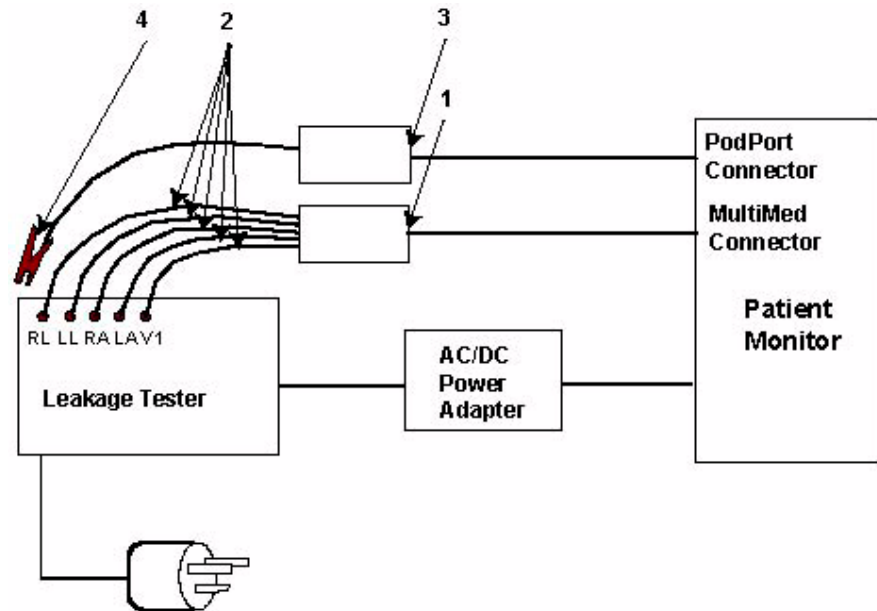
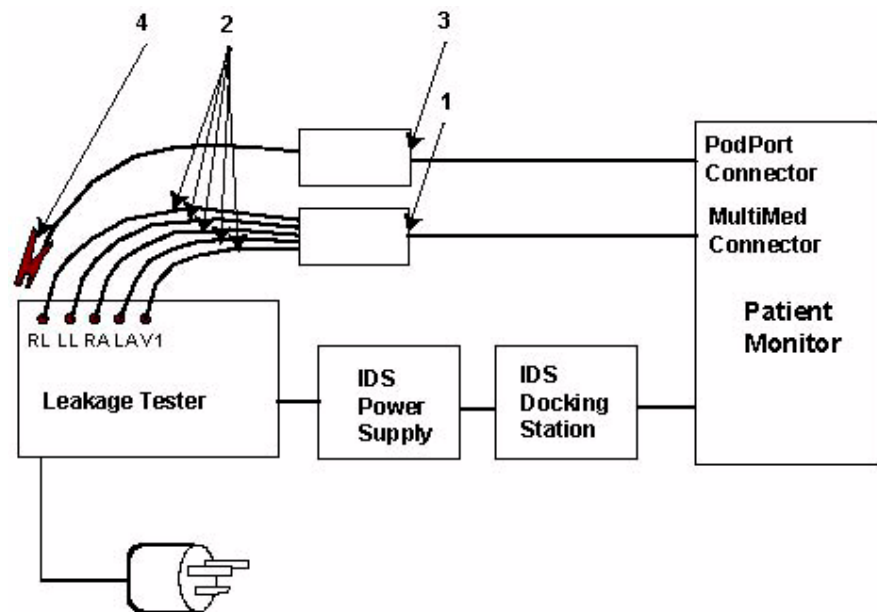

Figure 4 Block Diagram: Earth Leakage Current (AC/DC Power Adapter)
Figure 5 Block Diagram: Earth Leakage Current (Infinity Docking Station)
1. Perform leakage current tests on a Gamma series monitor with ac power adapter (see Figure 4) or IDS power supply (see Figure 5) plugged into leakage tester. Attach MultiMed cable (1 in Figure 4 and in Figure 5) to Monitor. Attach MultiMed cable ECG leads (2 in Figure 4 and in Figure 5) to corresponding posts at Leakage Tester.
4. Document test results on a copy of Acceptance Test Report. Disconnect MuliMed cable ECG leads (2 in Figure 4 and in Figure 5) from corresponding posts at Leakage Tester. Short together all leads to shield at end of PodCom Leakage Test Cable (4 in Figure 4 and in Figure 5) and connect leads and shield to RL post of Leakage Tester. Attach Pod Com Leakage Test Cable (3 in Figure 4 and in Figure 5) to Gamma PodPort connector. Follow leakage tester manufacturer's instructions to measure each leakage current given in Table 2, for each of following conditions: